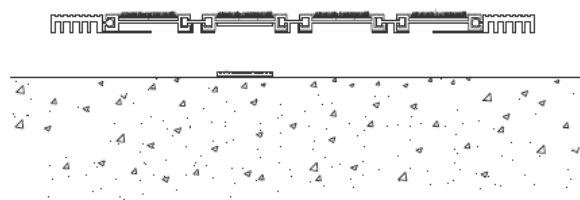

Figure 5
**STEP 8.** Select the lockdown plate. Place the lockdown plate into its installed position on the substrate, under the mat. Ensure that the lock strip on the lockdown plate is properly aligned with the flexible lock strip on the mat. Secure the lockdown plate to the floor with the fasteners provided by the factory (see Figure 5). The lock strip of the lockdown plate should fall directly under the installed flexible lock strip.